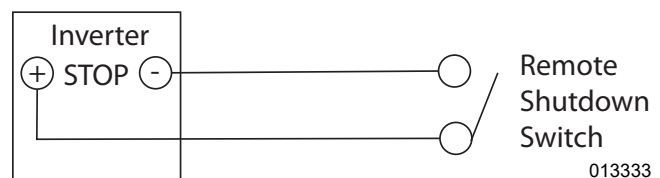

Figure 5-4. PV Only Remote Shutdown Switch Wiring
3. See Figure 5-4. Use 30 – 14 AWG two-conductor cable with insulation rated for 600 V to connect a switch that is lockable, UL listed, and rated for at least 12 VDC, 1 A (consider a standard single-pole light switch in a weather proof box with a lockable lever).